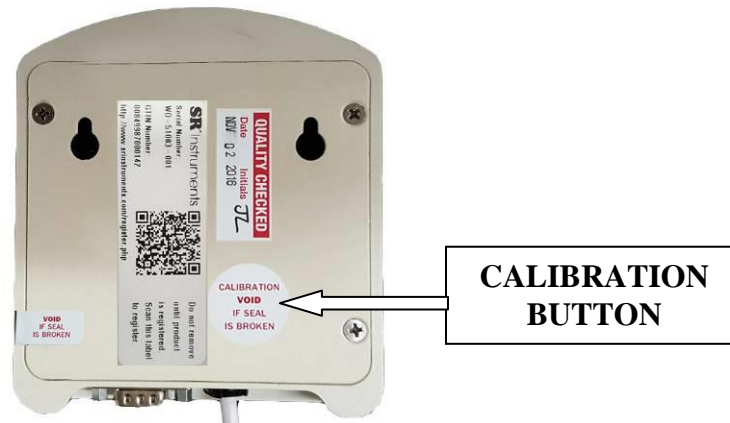
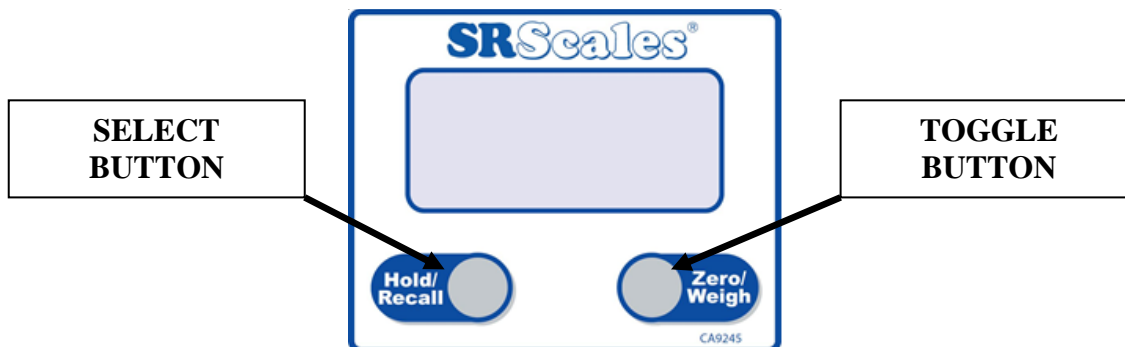

Figure 2: Calibration Button
Figure 3: Select and Toggle Button
To access all settings below, break the Calibration Seal. Press the calibration button (Figure 2) using the pointed-end of a pen or similar item. CAL mode is now active.
Refer to Figure 3. The Right Button allows you to toggle through the menus without saving any parameters. The Left Button permits a menu item to be selected or a parameter saved.
To enter the CAL mode, press the calibration button (Figure 2) using the pointed-end of a pen or similar item. Toggle through the menu with Right Button (Figure 3). Select or Save data with the Left Button (Figure 3).
- g) Press the calibration button (Figure 2) using the pointed-end of a pen or similar item.